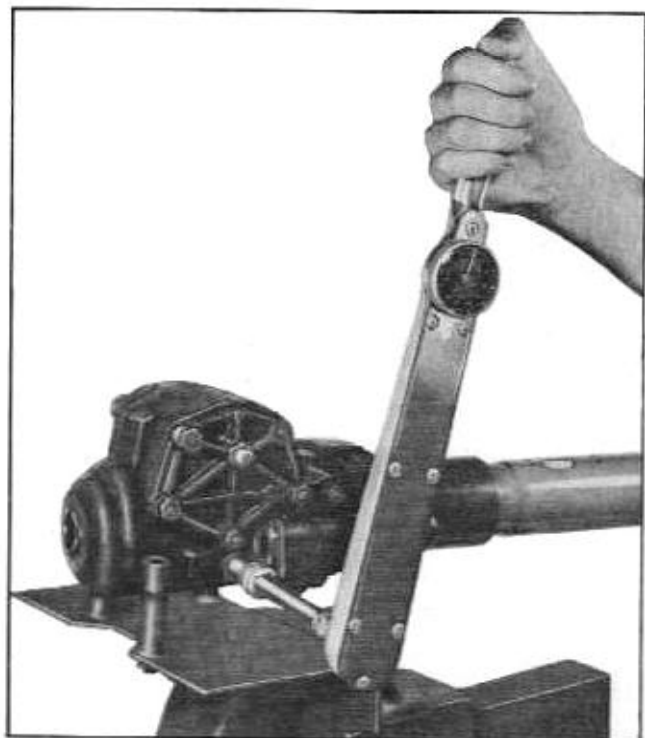

Fig. 9-63 Tightening Control Valve Retaining Screws
4. Install control valve retaining screws. Starting with screw on lower end of control valve, tighten screws to 15 to 20 lb. ft. torque (Fig. 9-63). **NOTE:** Be sure not to force valve in either direction while